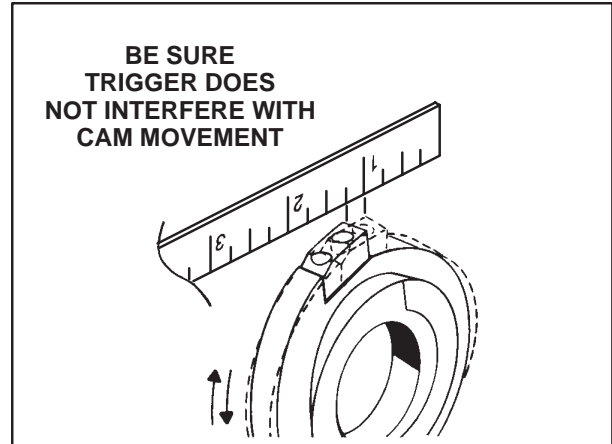

FIGURE 3
9. From the right side of the unit, loosen the adjusting nut until the cam can be rocked back and forth approximately 1/4" (6.4mm). Be sure to raise the trigger to ensure complete movement. Trigger must NOT interfere with cam stop. (Figure 3)